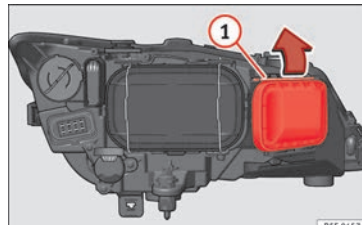

Fig. 106 Turn signal bulb.
- Move the loop »» Fig. 106 ① in the direction of the arrow and remove the cover.